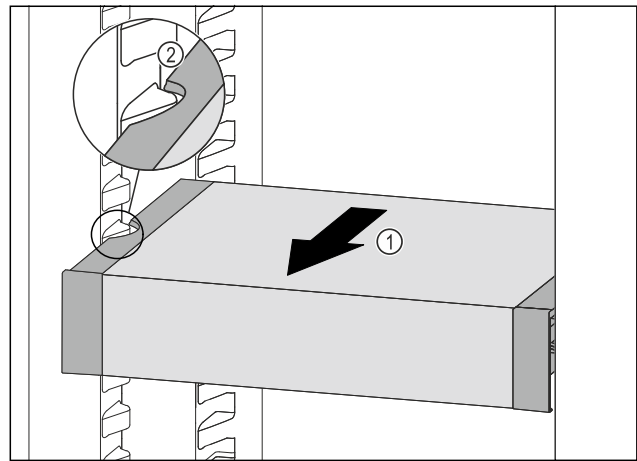

Fig. 184
- ▶ Pull VarioSafe forwards Fig. 184 (1) until the recesses in the side of the VarioSafe are at the level of the support rib in the fridge section. Fig. 184 (2)